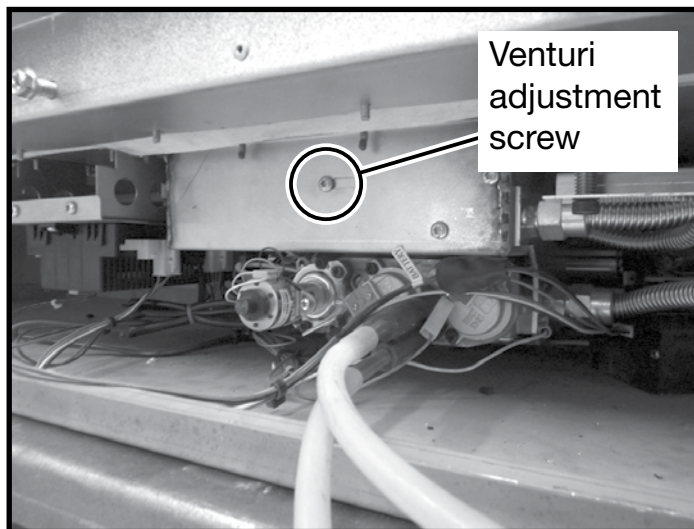

Figure 34: Gas valve location.
1. Remove window surround and locate the valve as seen in Figure 34.